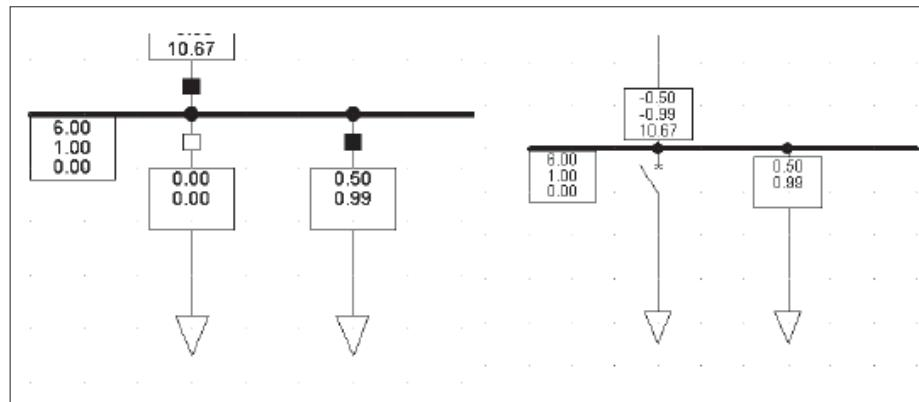

Figure 9.3.2: Cubicle representations
- **Switch state symbol at connection end:** selects the switch representation (see figure 9.3.2):